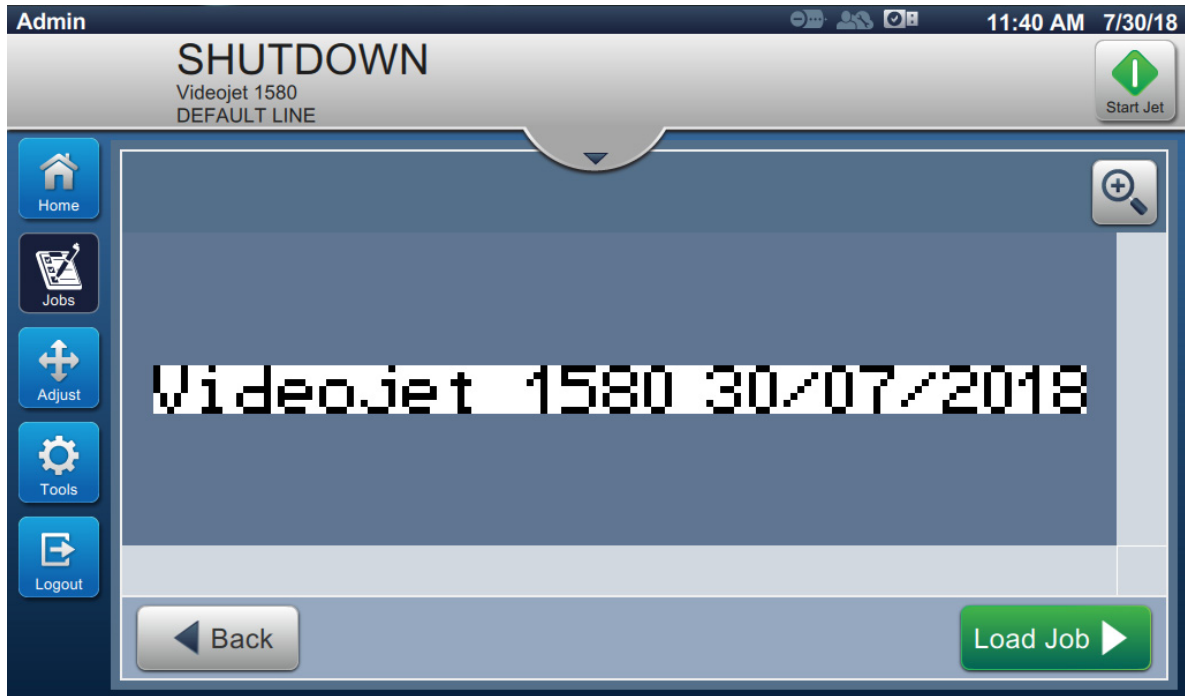

Figure 4-4: Job Selection and Loading
3. Touch the **Load Job** button to load the job for print as shown in Figure 4-4.